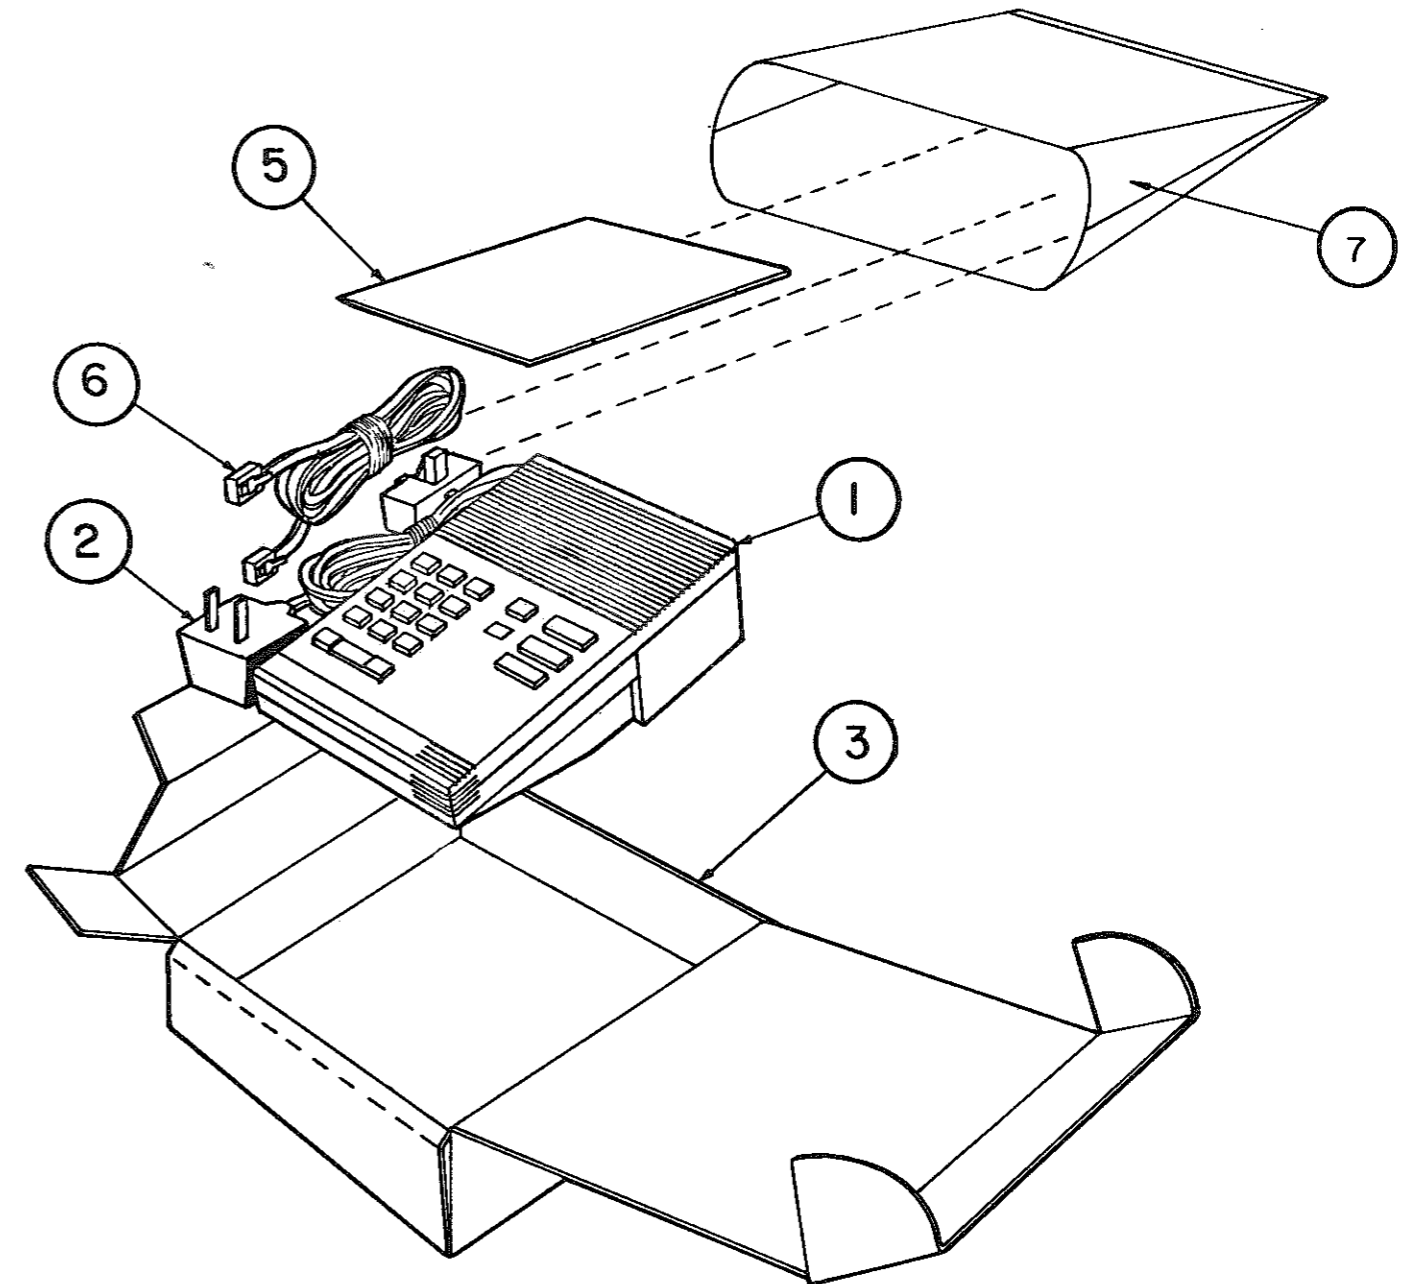

Fig. 2 — Identification of Parts
(REFER TO FIG. 2)**
- 4.06 The NT1L06AA handsfree unit comprises a NT1L0601 handsfree assembly, an NT1L0404 power supply and an NE-D8QT modular cord. Table A provides parts identification for the NT1L06AA handsfree unit, while Fig. 2 and Table B provide assembly and parts identification for the NT1L0601 handsfree assembly.